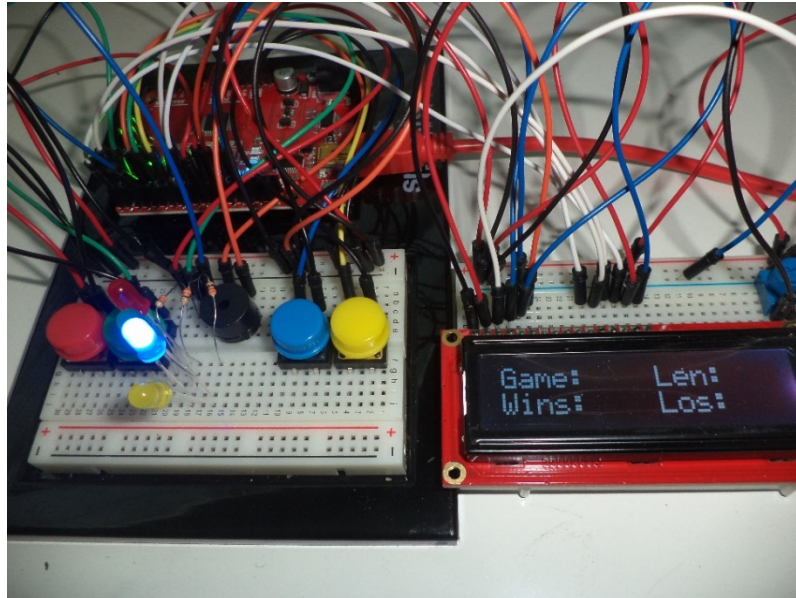

Figure 5: Simon Says Game with Statistics LCD
2. Mount the LCD and potentiometer to a separate breadboard and connect it to the digital pins on the microcontroller (see Figure 5).